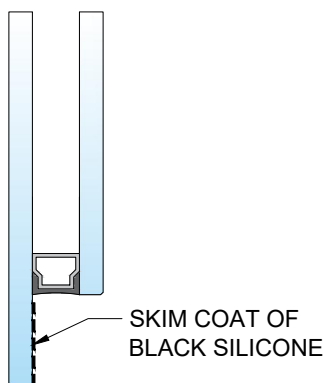

Fig. 18.3
5. If the glass has offsets a skim coat of silicone covering the entire offset is required. See **Fig. 18.3**